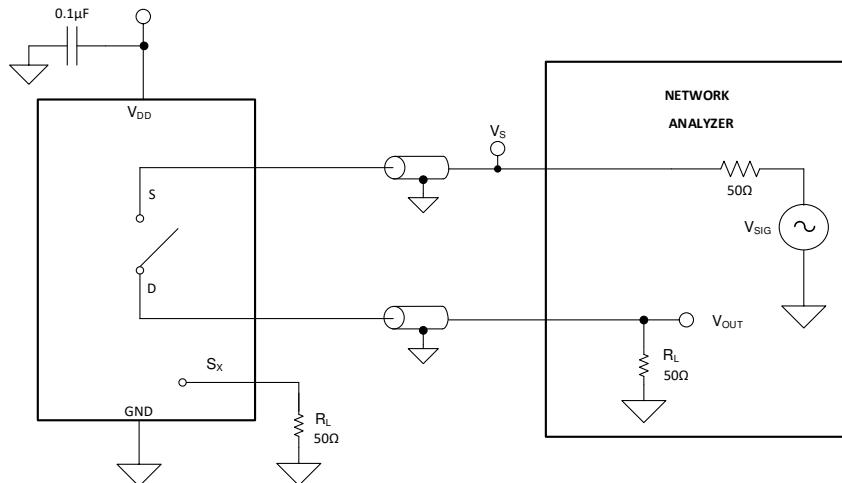

Figure 7-8. Off Isolation Measurement Setup
Off isolation is defined as the ratio of the signal at the drain pin (D) of the device when a signal is applied to the source pin (Sx) of an off-channel. Figure 7-8 shows the setup used to measure, and the equation to compute off isolation.